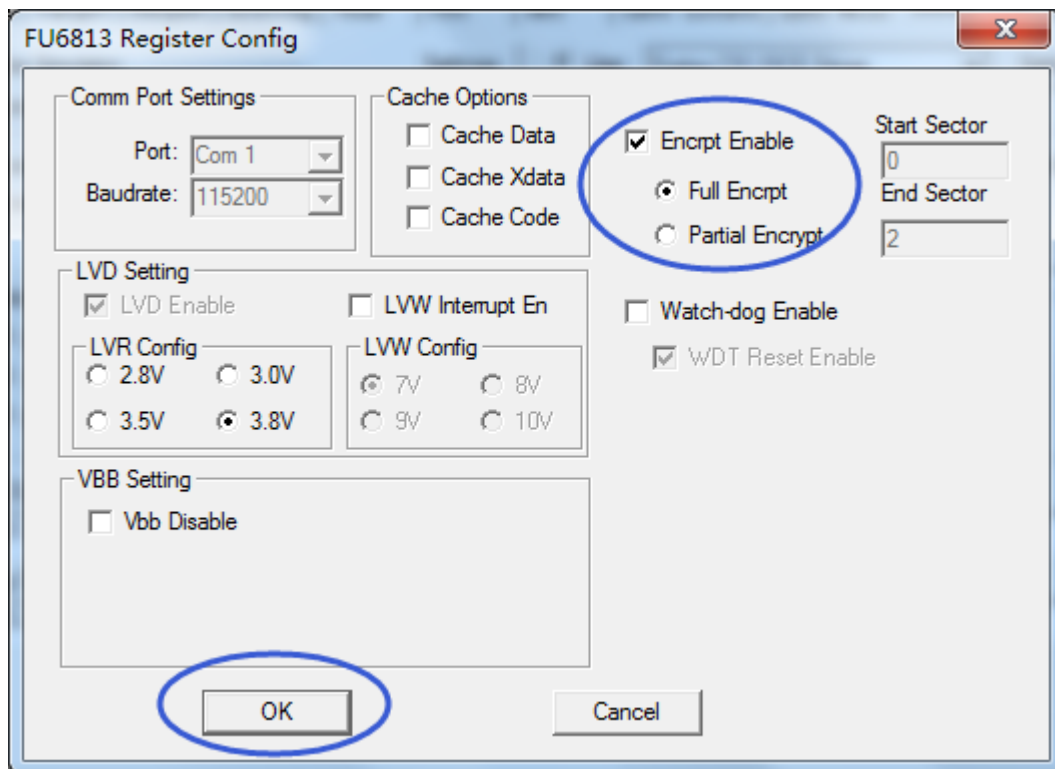
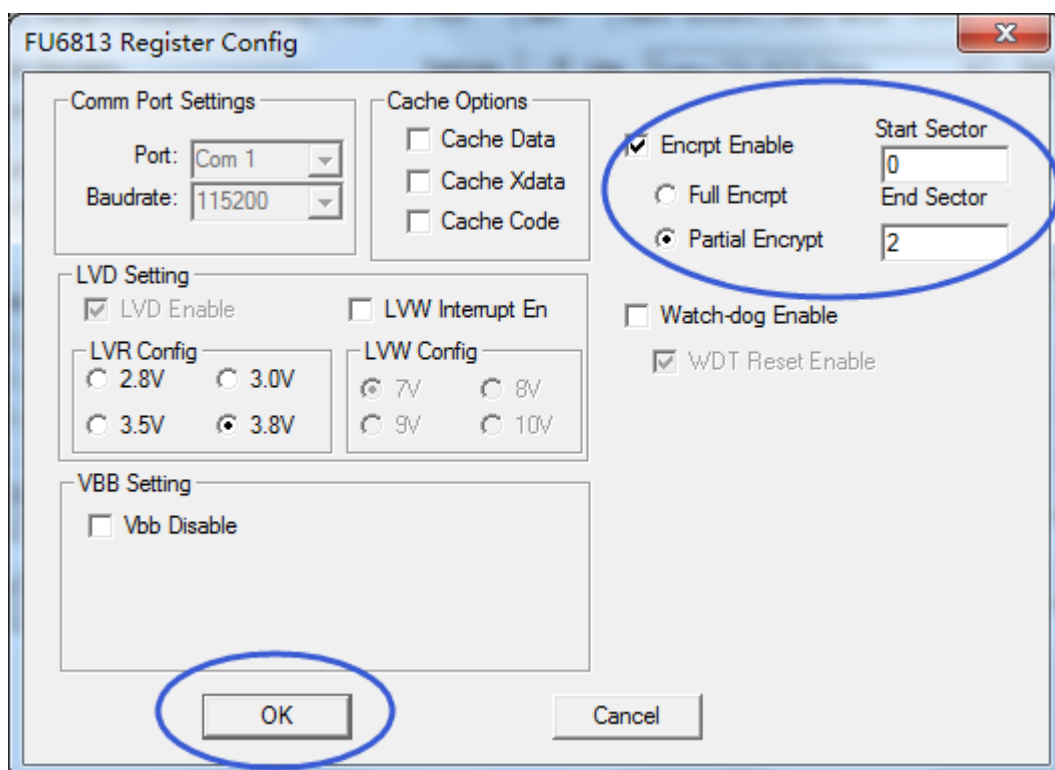

Figure 35-2 Full Code Protection Mode
Figure 35-3 Partial Code Protection Mode
2. Select the options as shown in Figure 35-2, and click OK. Then compile the project and download it. Get the BIN file and program it to Flash.
The chip support full code protection mode and partial code protection mode. After Full Encrypt is selected as shown in Figure 35-2, all codes in Flash are protected. After Partial Encrypt is selected as shown in Figure 35-3, the codes from sector 0 to END SECTOR are protected. The last sector is always protected in any case.